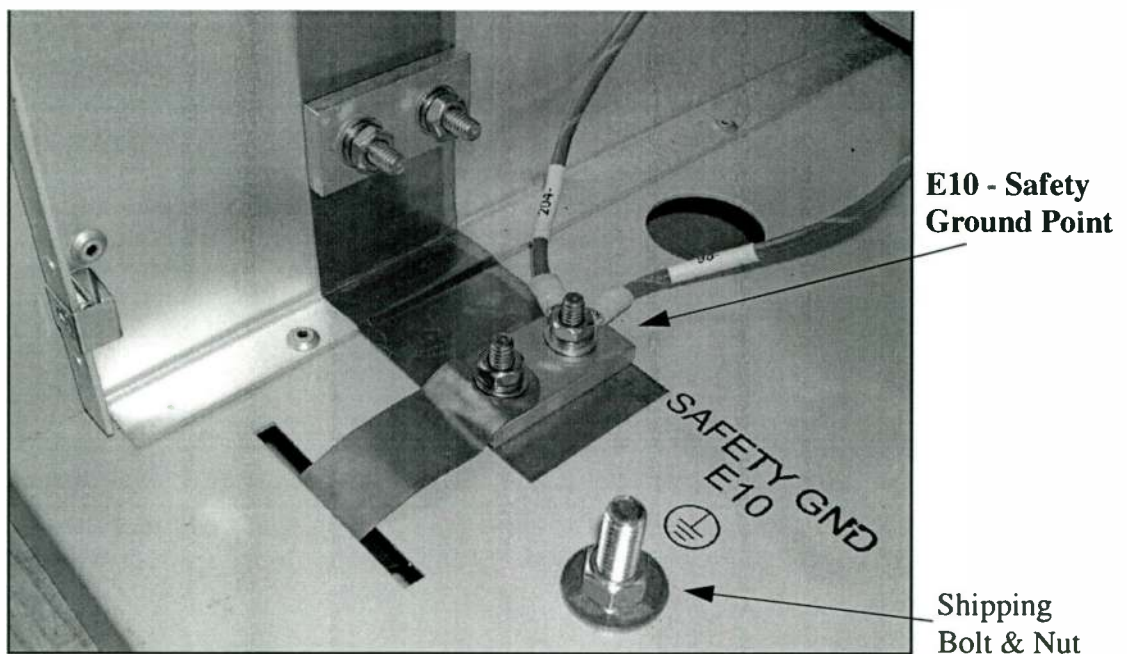

Figure 2-4
STEP 6 Attach green neutral wire to E10 stud for safety ground (see Figure 2-4 on page 2-8)
STEP 7 Attach ground wire to E10 stud for safety ground (see Figure 2-4 on page 2-8)